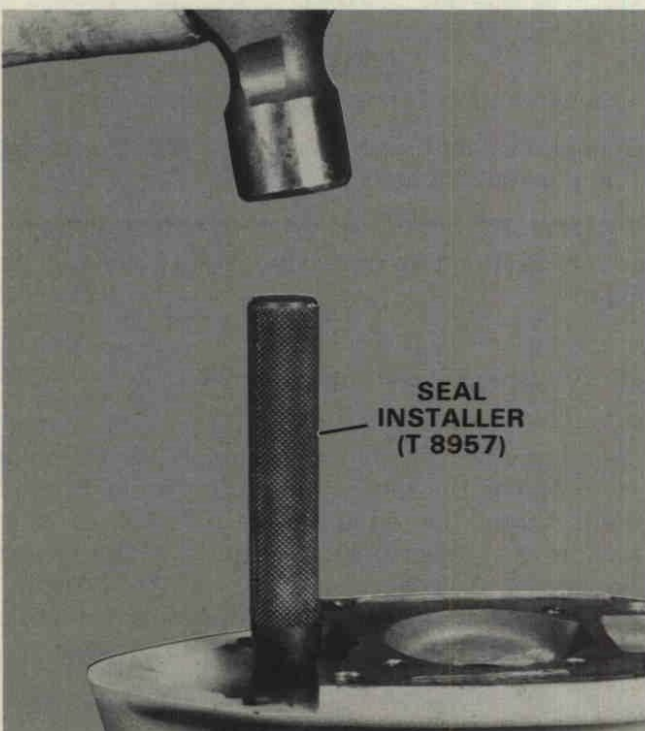

Figure 68. Installing Shift Rod Seal.
- A. Install shift rod seal using Special Tool No. T 8957. Install with raised bead on seal facing up. Seat in bore by driving down until seal is flush to .010" (0.26 mm) depressed below cavity surface. Figure 68.